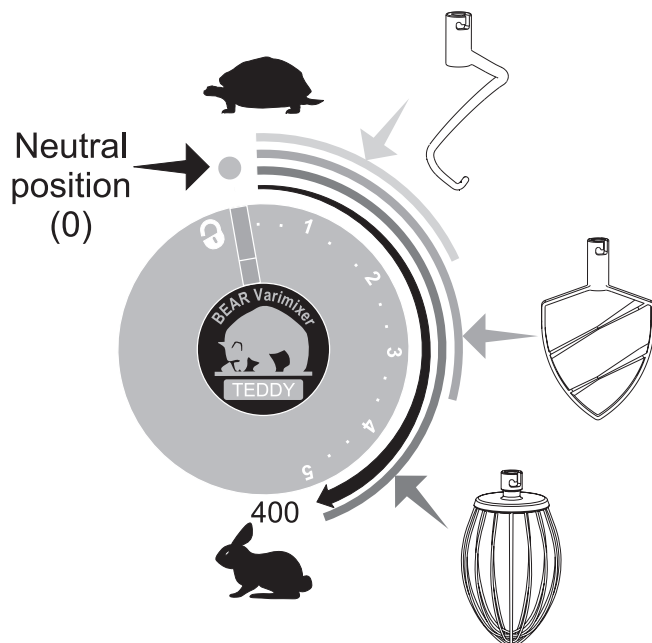

Fig. 2 Recommended working speeds
G. Start the mixer by turning the control button away from the locking symbol and past 1. To avoid splashing and dust from flour, it is recommended to increase the speed gradually until the required speed is obtained (fig. 3C), (see fig. 2 for recommended working speeds).